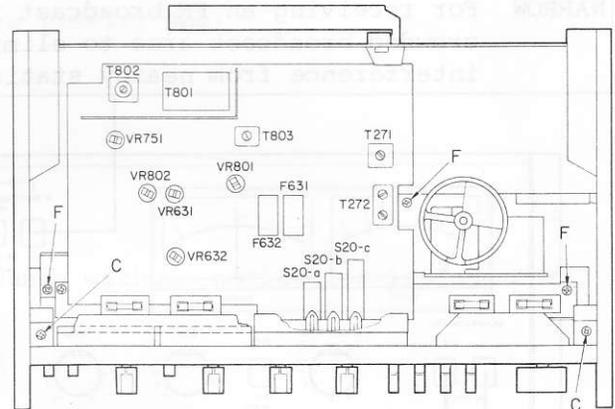

Fig. 2
- 2) Take off the two lower side panel fixing screws indicated as C in Fig. 2.
- 2) Take off the three chassis-fixing screws (F in Fig. 2) of the tuner section.